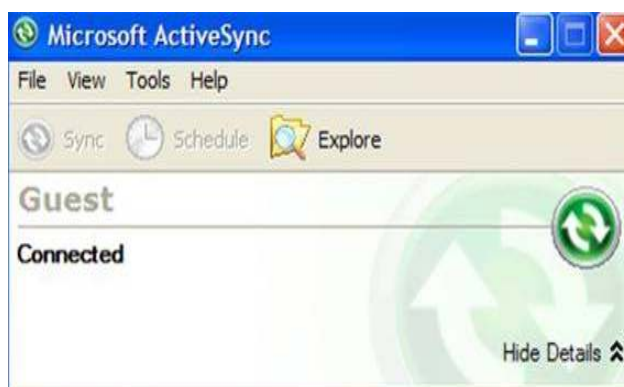

Figure 50. Active Sync Menu
3. Open ActiveSync on your PC (Figure 50).